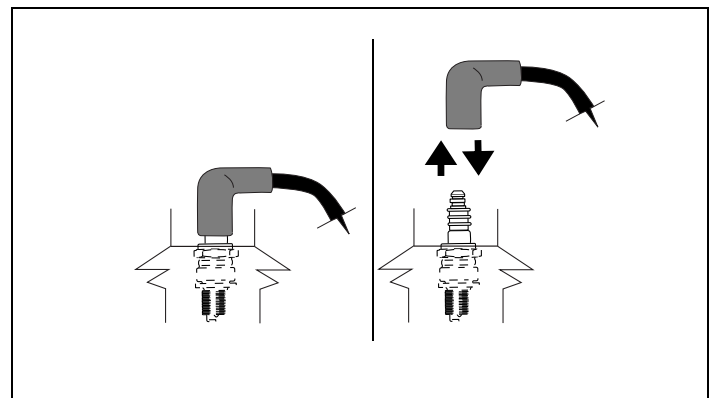

Figure 2. Disconnecting/Connecting Spark Plug
- Carefully disconnect spark plug wire and keep it away from spark plug. See Figures 2 and 3.